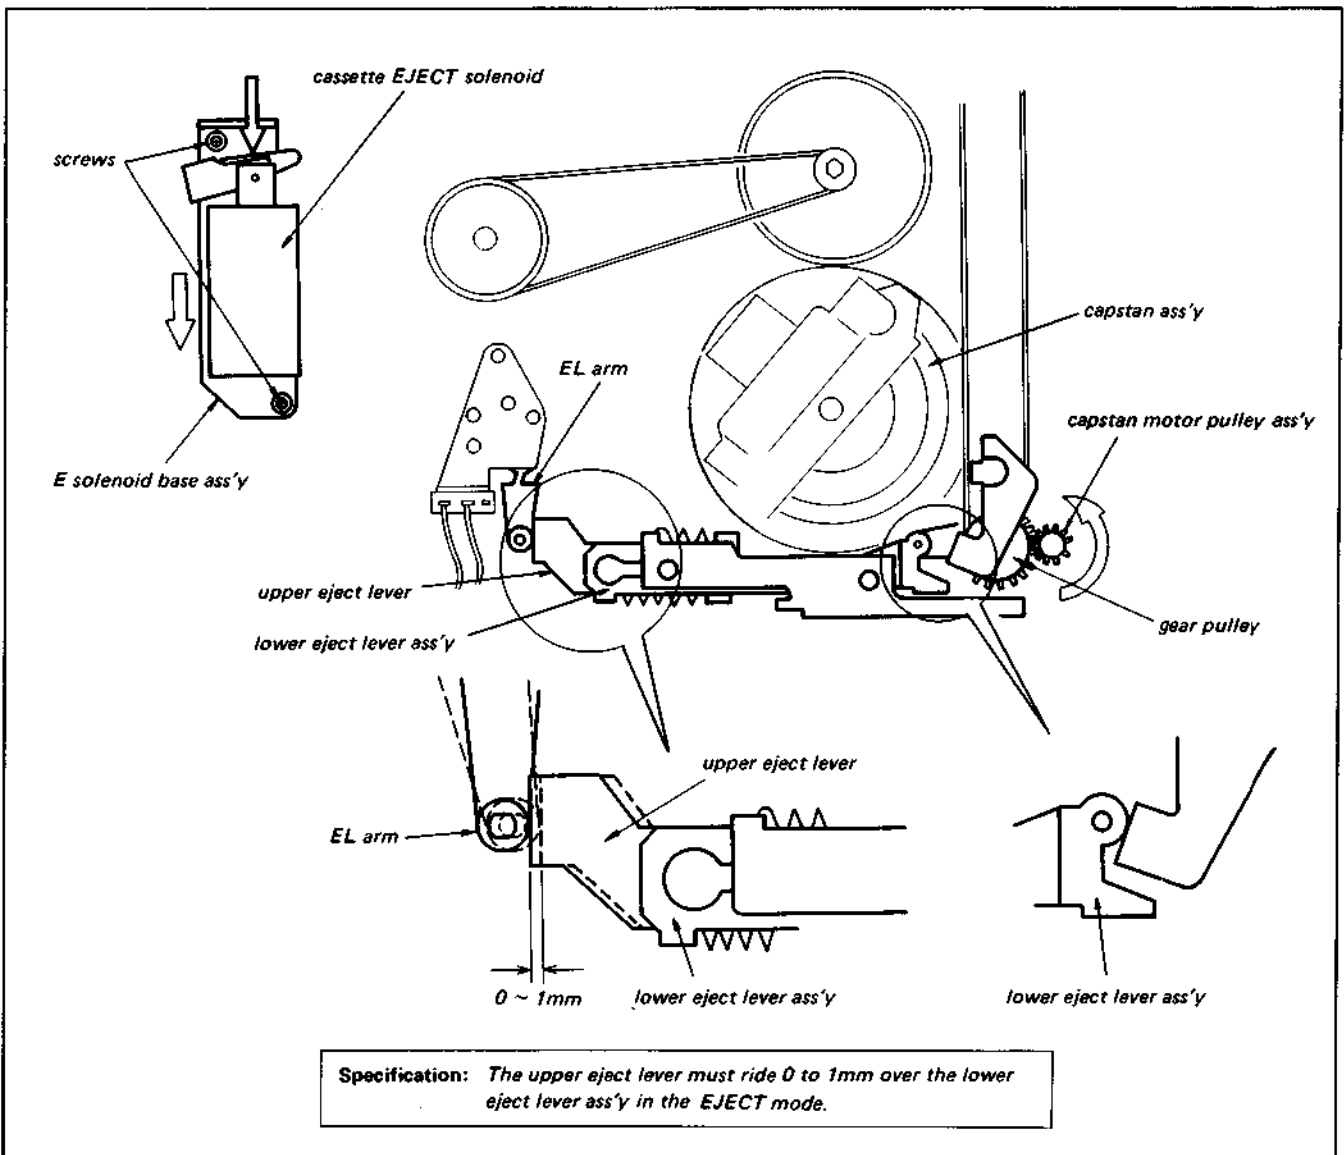

Fig. 3-19. Position adjustment of EJECT solenoid
4. Check that the specification shown in Fig. 3-19 is satisfied. If it is not, perform Steps 5, 6, and 7.
6. Loosen the two screws shown in Fig. 3-19. Move the E solenoid base assembly to the position where the specification shown in Fig. 3-19 is satisfied, while turning the capstan motor pulley assembly counterclockwise and setting the solenoid to the energized state.